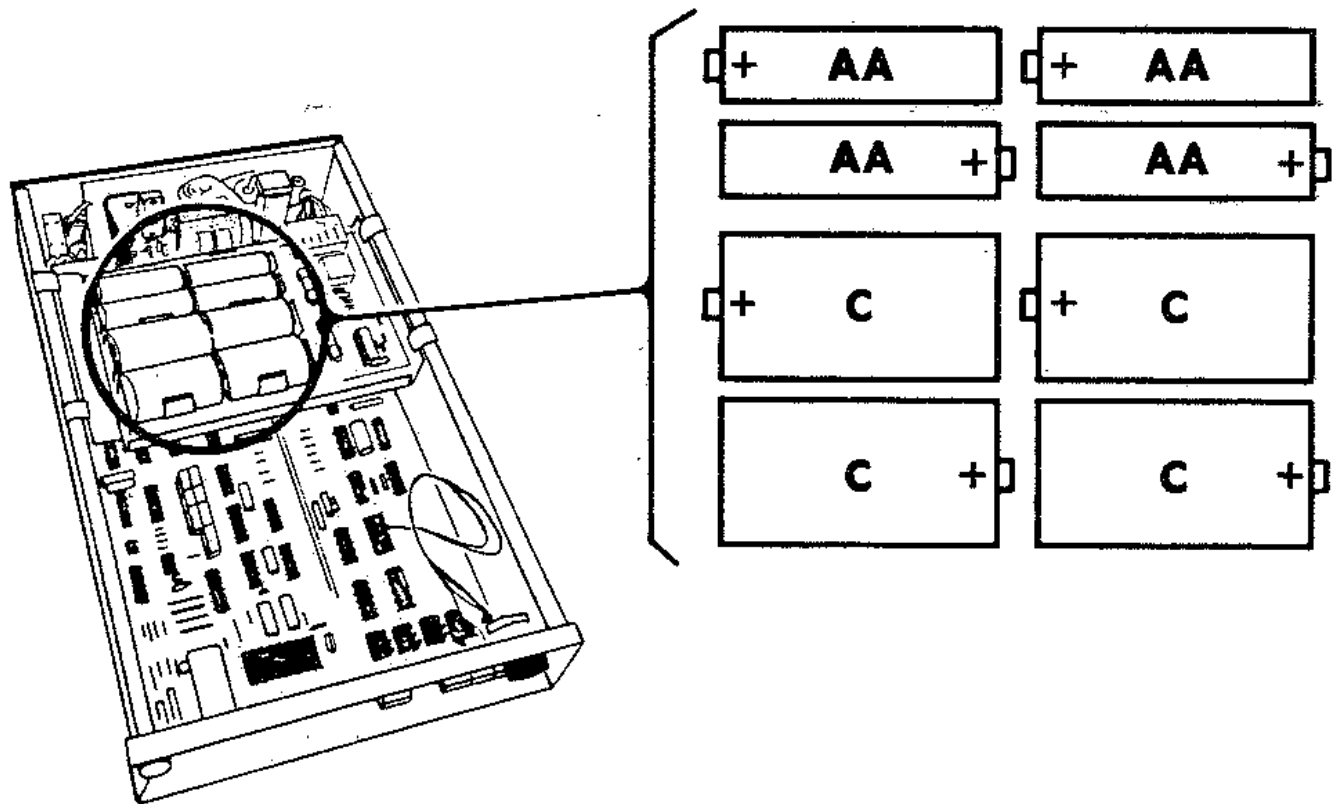

Figure 1: Rechargeable Battery Installation
Step 5. Remove and replace the old batteries. Be careful to install them in proper polarity. Refer to figure 1.